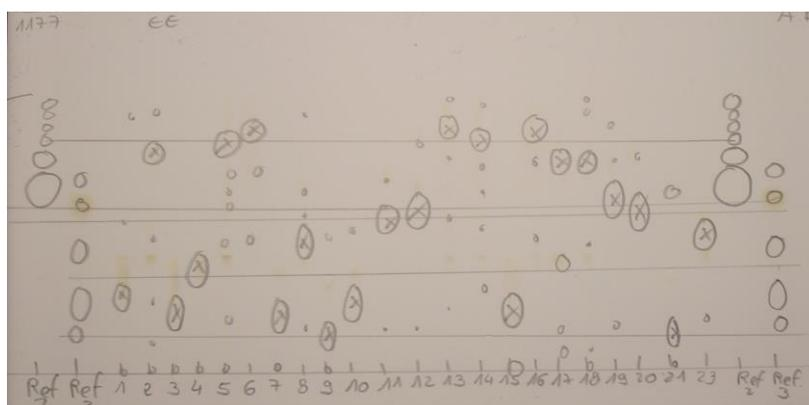

Fig. 1 TLC: parallel method assignment for 23 samples
1. The mixture to be separated is spotted on two TLC plates together with a spot of *Ref2* and *Ref3* (Fig. 1).